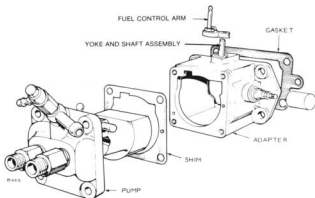

FIGURE 3-50. PUMP AND ADAPTER ASSEMBLY
2. Using proper shim thickness (Figure 3-50), install pump to adapter with four socket head cap screws and lock washers. Torque to 20 to 24 ft-lbs 27-33 N•m).
5. Reinstall fuel control arm on yoke and shaft assembly, Figure 3-50. Tighten socket head screw, but do not over tighten.